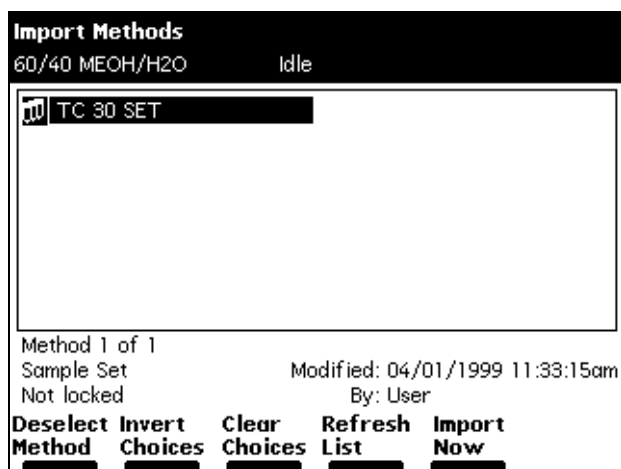

Figure 5-37 Import Methods Screen
- Press the **Import Methods** screen key. After a brief standby message, the Import Methods screen displays a list of methods stored on the floppy disk (Figure 5-37). To update the list, press the **Refresh List** screen key.